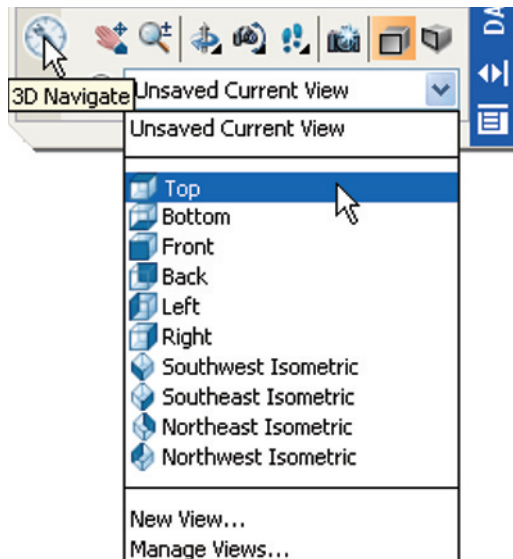

Fig. 13.5 Selecting **Top** from the **3D Navigate** control panel's popup list
2. *Click Top* in the **3D Navigate** control panel's popup list (Fig. 13.5).
2. Select **Southwest Isometric** from the popup list in the **3D Navigate** control panel (Fig. 13.5, page 198). The extrusion appears in an isometric view.
1. In the above example we made use of one of the isometric views possible from the **3D Navigate** control panel (Fig. 13.5). These views will be used frequently in examples to show 3D solid model drawings in a variety of positions in 3D space.